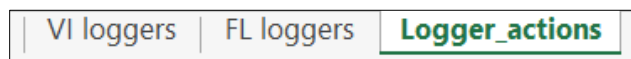

**Figure 1.** Tabs in the Excel worksheet for loggers located in the Virgin Islands and in Florida.
5. Whenever a logger is downloaded, removed, or changed in any way, this file is updated. There are three sheets within this file labeled “VI loggers”, “FL loggers”, and “Logger Actions” (Figure 1).